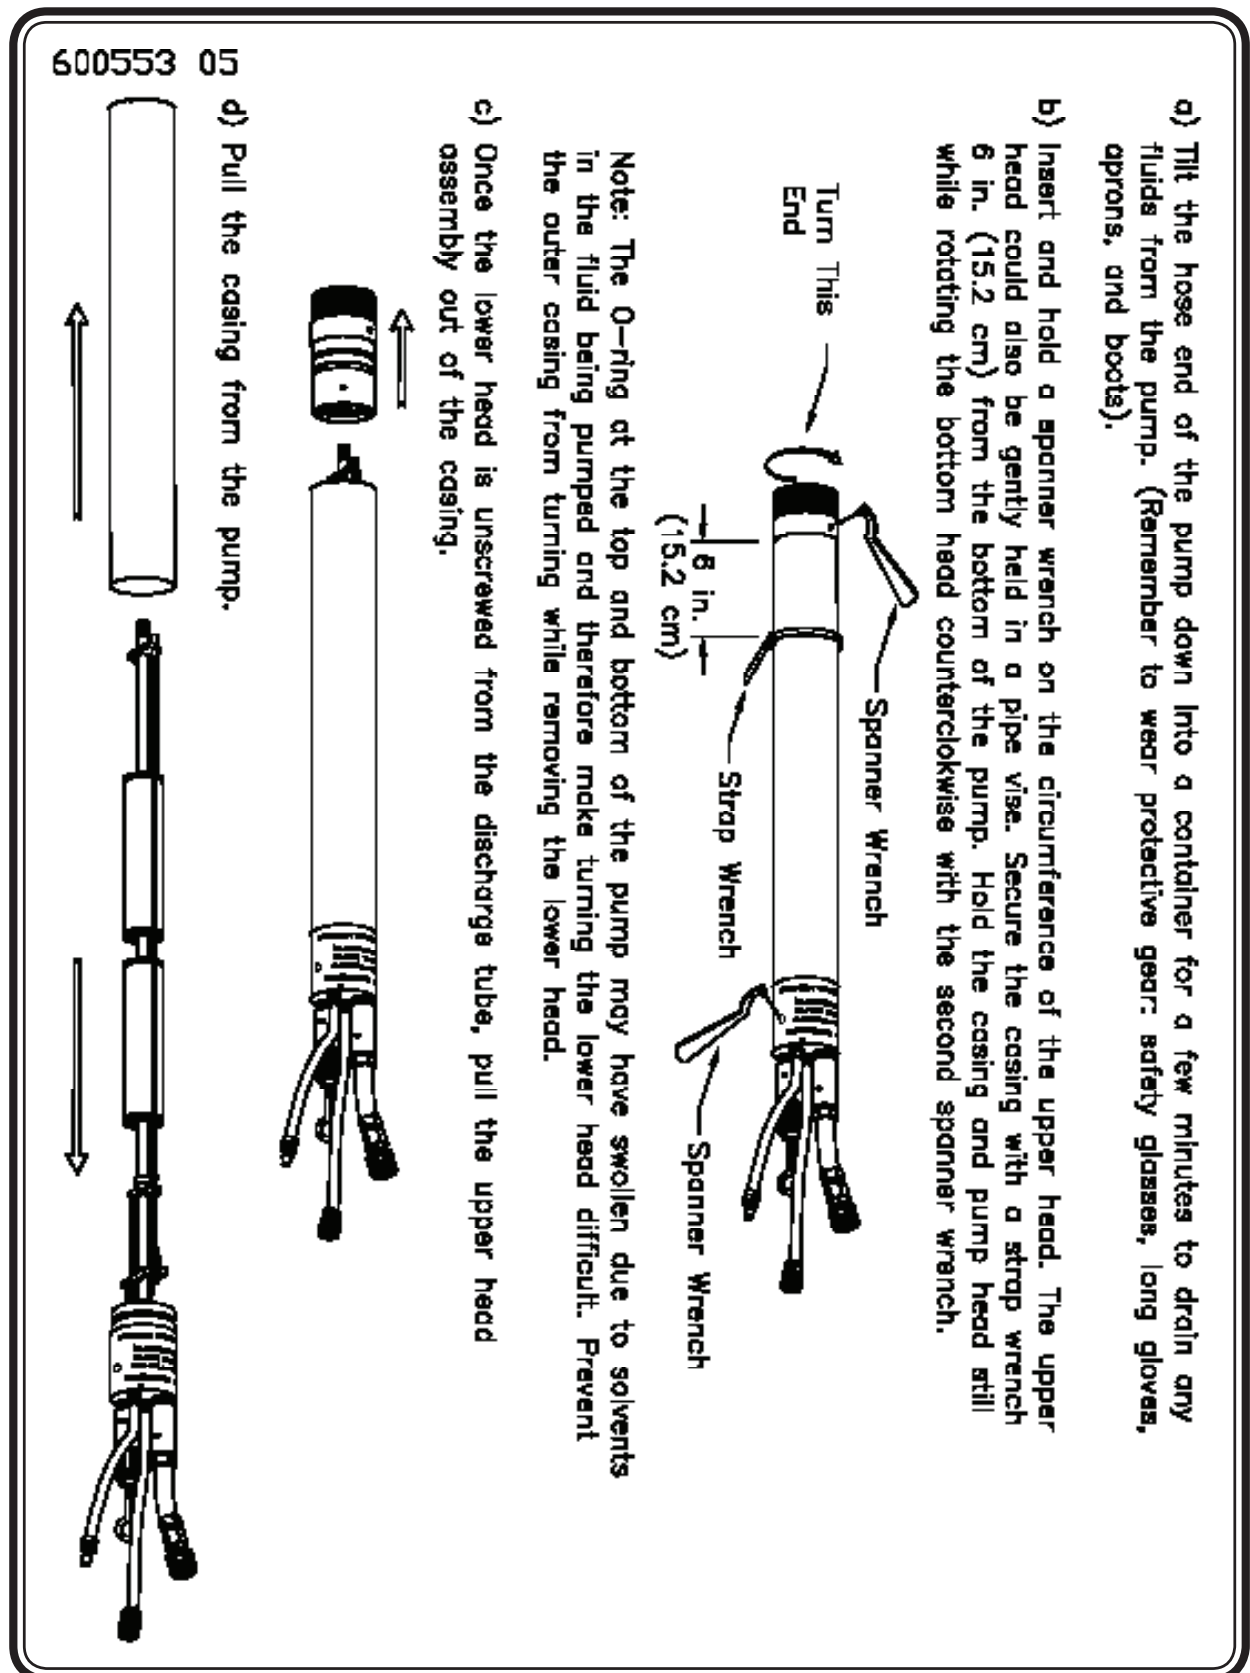

Figure 16 - Removing AP-2 Pump Casing
- STEP 1 -** Insert and hold a spanner wrench on the circumference of the lower head. Rotate a spanner wrench counterclockwise on the lower head assembly. Hold the casing with a handle or a strap wrench. **(See Figure 16)**
- STEP 1 -** The bottom intake check valve assembly should be removed from the casing. (See pages 46 and 47, and Figure 16 on page 48)